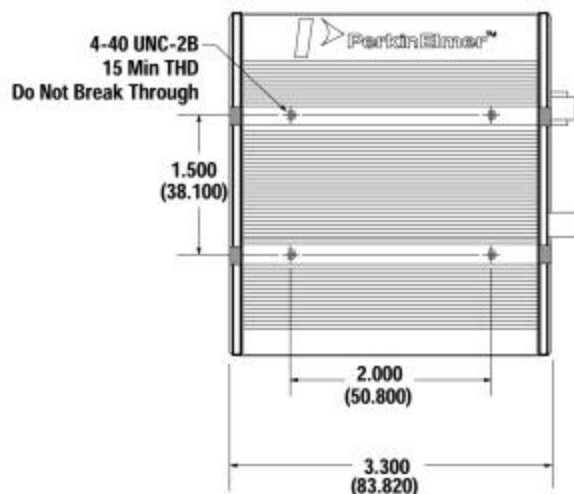

Figure 7 YD5000 Series Camera Mounting Hole Location
Camera mounting distance from the object to be imaged is determined by the required object width X , the camera array size, and the selected lens and extension. See section 1 for some general guidelines for physically locating your camera for your application. Mounting the camera may require the supplied mounting plate or customer supplied adapter. Figure 7 shows the location of the mounting holes for attaching the camera to the mounting surface and specifies the mounting hole thread. The same mounting provisions are provided on each of the camera 4 sides.
3. Fabricate the necessary mounting adapters to be used for installing the camera. Refer to Figure 7 and Appendix B for mounting hole location and thread definition.